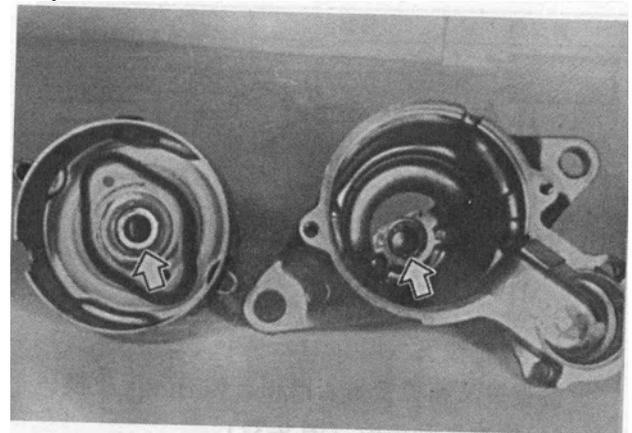

Fig. 9-31
7) INSPECT ARMATURE SHAFT BUSHING(Fig.9-31)